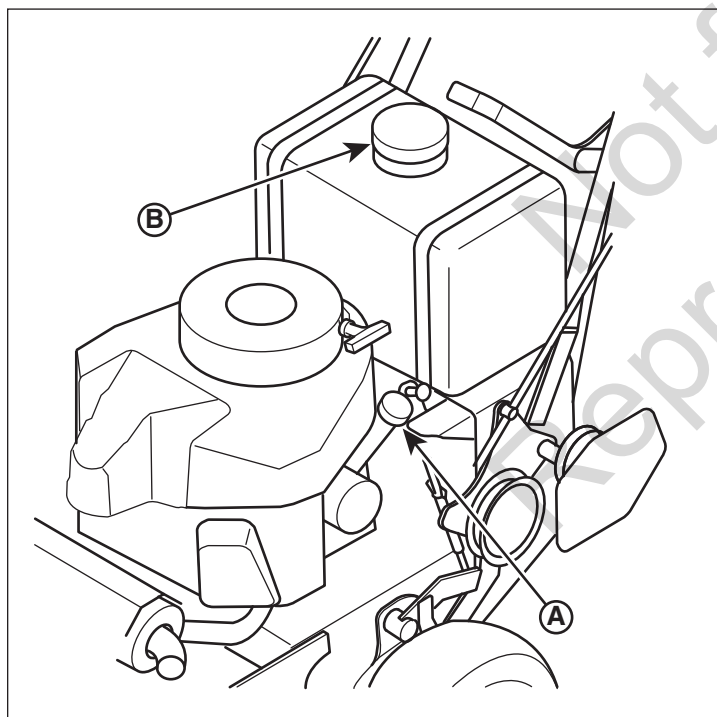

Figure 2. Prestart Checks
- Check that crankcase is filled to full mark on the engine oil dipstick (**A**, **Figure 2**). See the engine Operator's Manual for instructions and oil recommendations.